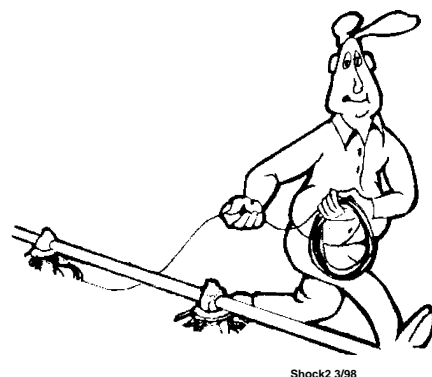

Figure 37. Unrolling the Cable
1. Unroll the bulk anti-roost cable. Note: If the cable is unrolled as shown in **Figure 37**, taking 5 loops of the coil with one hand, then changing hands to remove 5 loops as it is unrolled, it will lie flat during installation.